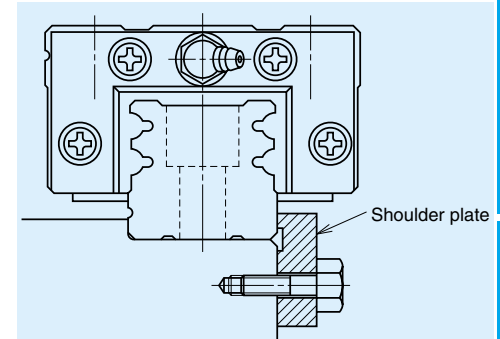

Fig. II-9-13 Pressing the rail from sideways
- ① Confirm that the rail is reference side rail, and the datum face of the rail comes to face to face with the shoulder of the bed. Keep the ball slides on the rail, and carefully place the rail on the bed on its mounting face. Temporarily tighten the bolts. At this time, press the rail from sideways to make the rail tightly contact to the shoulder of the bed. Apply tightening torque to the bolt in Table II-9-7 when tightening a shoulder plate (Fig. II-9-13). Refer to "(4) Various methods to press linear guide sideways."